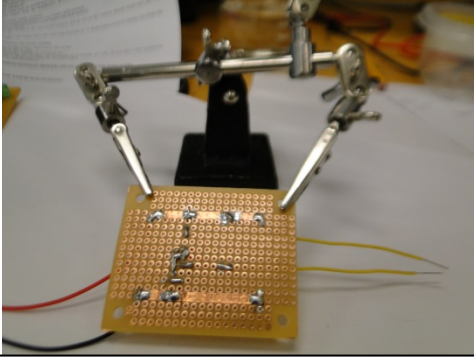

Figure 11 “Helping Hand”
- See Figure 11 below for details.